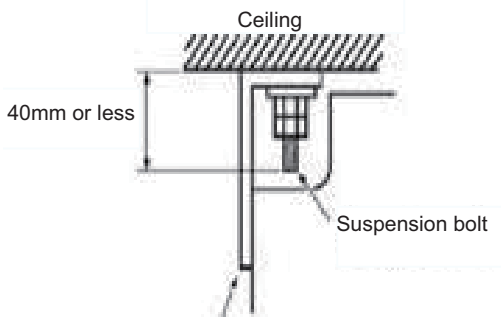

Figure 1-2-1 Hanger bracket
- ◆ Adjust the distance from the unit to the ceiling slab beforehand (Refer to Figure 1-2-1).